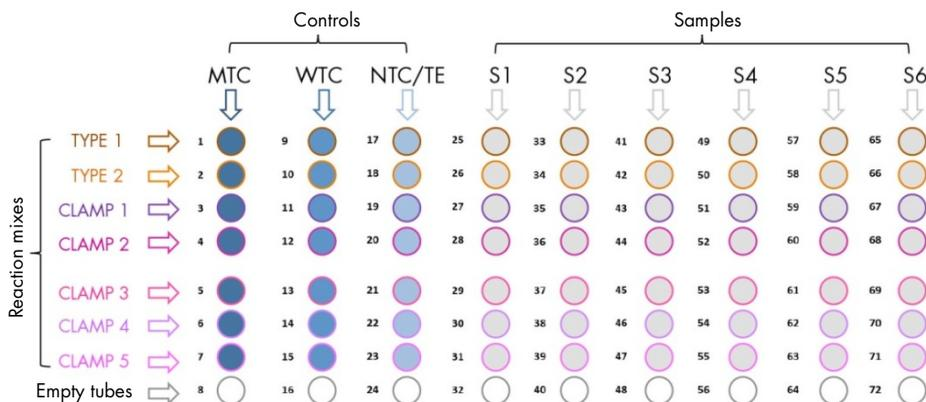
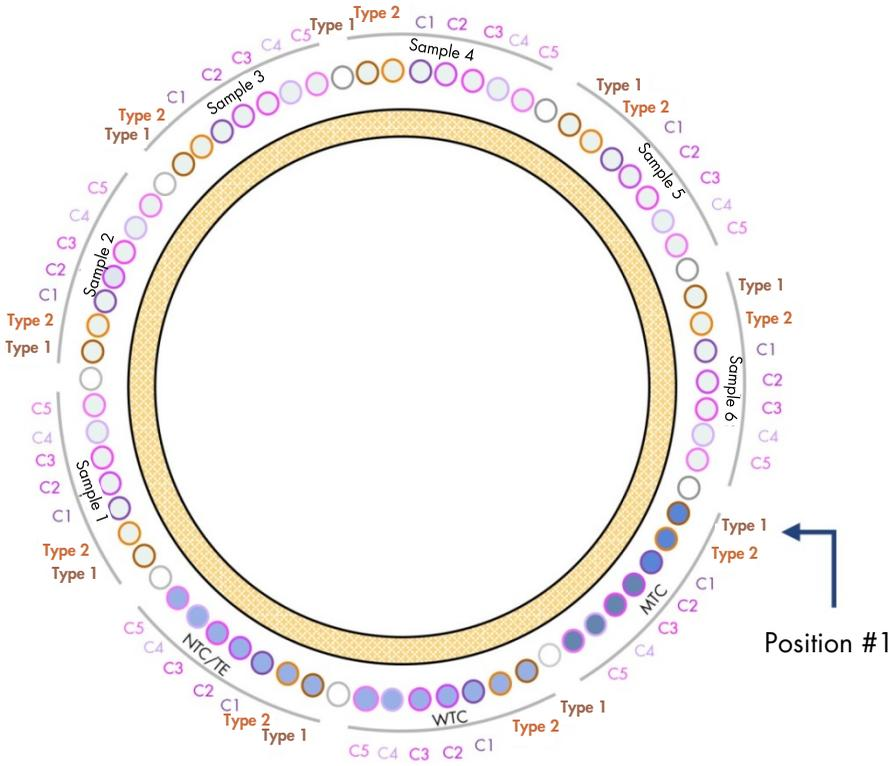

Figure 4. Loading block setup for an experiment with the *ipsogen* CALR RGQ PCR Kit.
Figure 5. Rotor setup for an experiment with the *ipsogen* CALR RGQ PCR Kit.
The schemes shown in Figure 4 and Figure 5 provide an illustration of the loading block and rotor setup for an optimized experiment with the *ipsogen* CALR RGQ PCR Kit.
Numbers in Figure 4 denote positions in the loading block and indicate final rotor position.
- Place the qPCR strip tubes on a cooled Loading Block 72 x 0.1 ml Tubes and dispense 20 µl of the CALR qPCR master mixes per strip tube following the loading block setup shown in Figure 4.
- Vortex and briefly centrifuge gDNA samples, CALR Wild-Type Control (WTC), CALR Mutant Control (MTC) and TE buffer (NTC). Then, add 5 µl of sample or control material into its corresponding tube according to the setup in Figure 4 to give a total volume of 25 µl. Mix gently by pipetting up and down.
2. Fill the rotor with strip tubes according to the assigned positions, starting at position 1, as shown in Figure 5 with empty capped strip tubes placed into all unused positions.
Note: Make sure the first tube is inserted into position 1 and the strip tubes are placed in the correct orientation and positions as shown in Figure 4 and Figure 5.
Note: Always keep the TYPE 1 reaction mix and the three controls (MTC, WTC, NTC) in positions 1, 9 and 17 so that gain optimization (performed on tube position 1) is always performed on the same amplification (see Figure 4 and Figure 5).